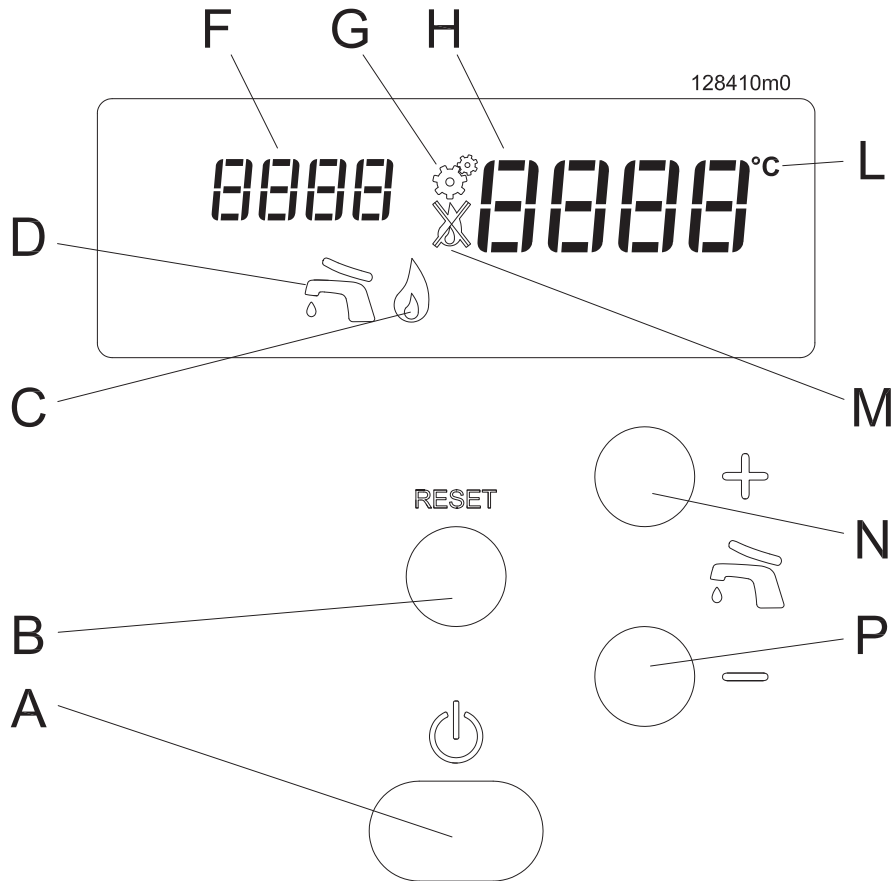

Figure 7-1 - Control panel
1. turn the power switch (item "A" in Figure 7-1) to on;
Key for figure 7-1
Entry into the "User menu" is highlighted by the visual display "F", in figure 7-1, which indicates parameters that can assume
operating on the  and  keys. On pressing one of the two keys, the visual display "H" in figure 7-1 will start to flash and show the temperature that is being set. The range of adjustment for the temperature of the domestic hot water goes from 40°C to 60°C. For higher output temperatures, contact your technician to change the maximum output temperature factory setting, see section 11.
a.- press the RESET key to access the parameter (the visual display “H” in figure 7-1 will start to flash);